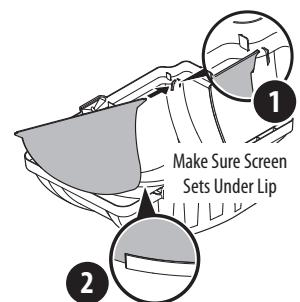

Figure 7
- If not already installed by the factory, install the bagger screen into the bagger cover by first inserting one end into the corresponding cutout mounting hole (1). Clip the other side of the screen by flexing the screen and pushing it down into the opposite side cutout. Make sure screen sits under the cover's lip (2). See Figure 7.